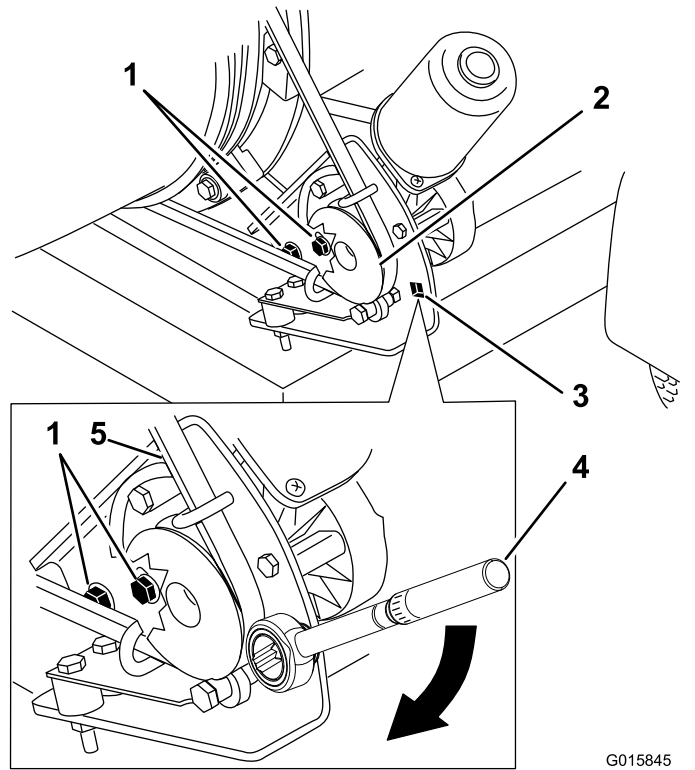

Figure 30
1. Loosen the bolts securing the pulley mounting bracket to the blower frame (Figure 30).
2. Position a torque wrench into the pulley mounting bracket (Figure 30).
3. Pivot the pulley mounting bracket away from the nozzle until the torque wrench reads 22.6 to 26.0 N·m (200 to 230 in-lb) (Figure 30).